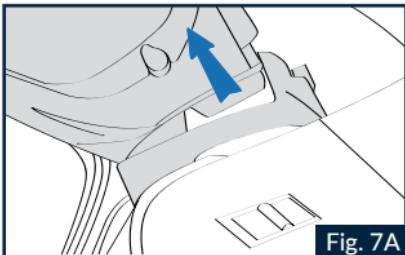
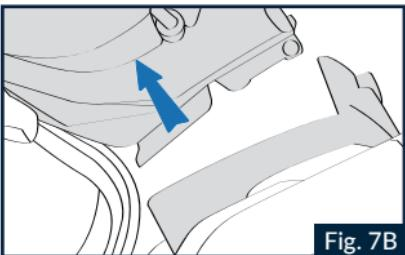

Fig. 7A
Fig. 7B
1.2 Push the release lever of the left side mechanism completely backwards (Fig.6) and simultaneously push the visor forward initially projecting the top hook "A" (Fig.7A) and then the lower hook "B" from the corresponding seats in the side mechanism (Fig.7B).
2.2 Place the visor left side on the corresponding side mechanism by inserting the visor inner pin into the mechanism central housing (Fig.7B).
2.3 Rotate the visor towards the side mechanism by inserting the top hook "A" into the corresponding seat in the side mechanism itself so that the release lever retracts and then returns to its position, hooking the visor to the side mechanism with a click (Fig.7A).